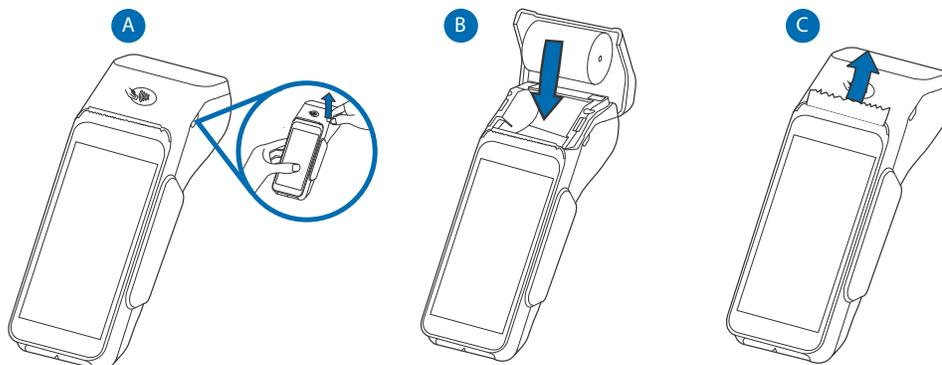

Figure 10 Steps to Install a Paper Roll in the T650p
- 1 Hold both sides of the paper door, which is on the upper corner of the device and open the paper door by pulling outside (See below Figure 10).